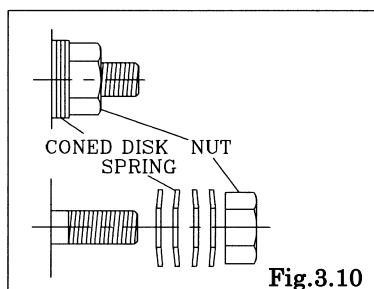
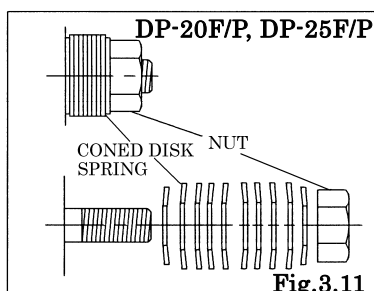

Fig.3.10
Fig.3.11
- Make sure that the directions of each coned disk spring are correct. [Fig.3.10, Fig.3.11]